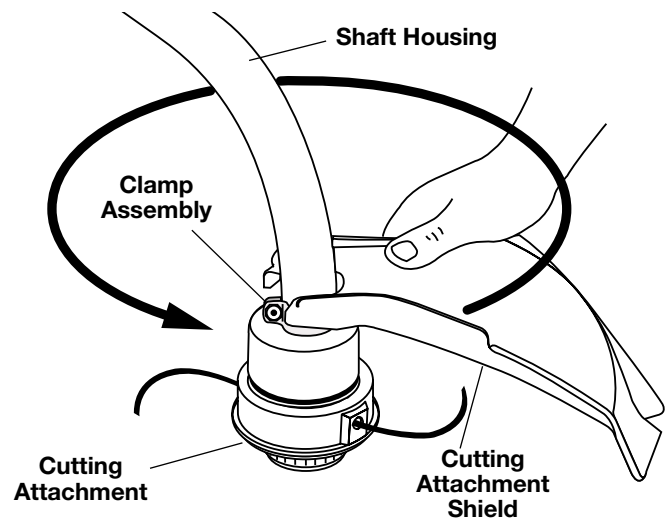

Fig. 3
1. Place the cutting attachment shield onto the shaft housing above the clamp assembly (Fig. 3).
2. Push the cutting attachment shield down to the top of the cutting attachment assembly and then rotate the cutting attachment shield 180°. Align the 4 screw holes in the recessed pocket (Fig. 3).